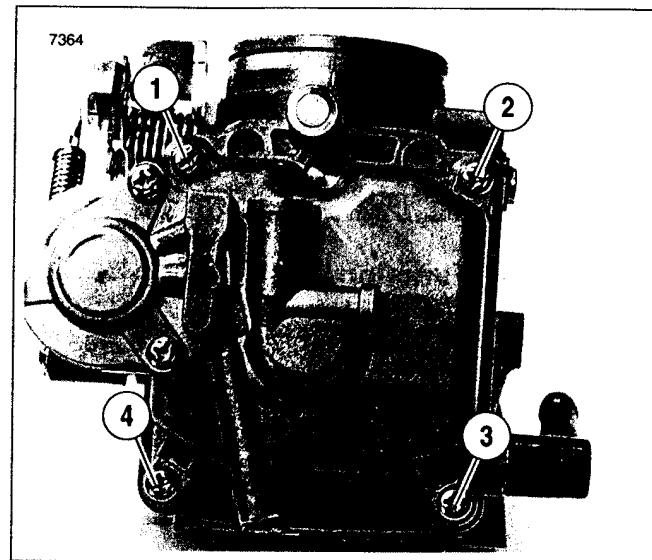

Figure 4-8. Float Bowl Screws
2. See Figure 4-8. Remove four screws to detach float bowl.